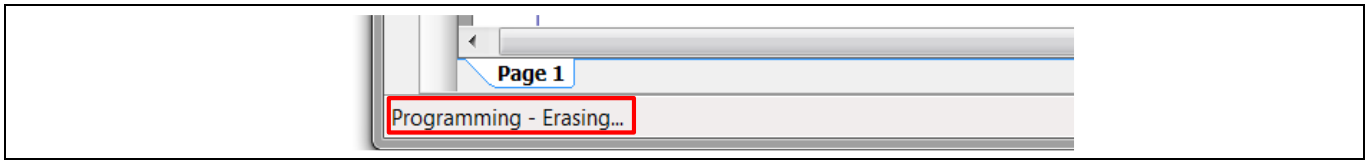

Figure 51 Programming status
4. You can view the programming status on the status bar (lower-left corner of the window), as shown in Figure 51.